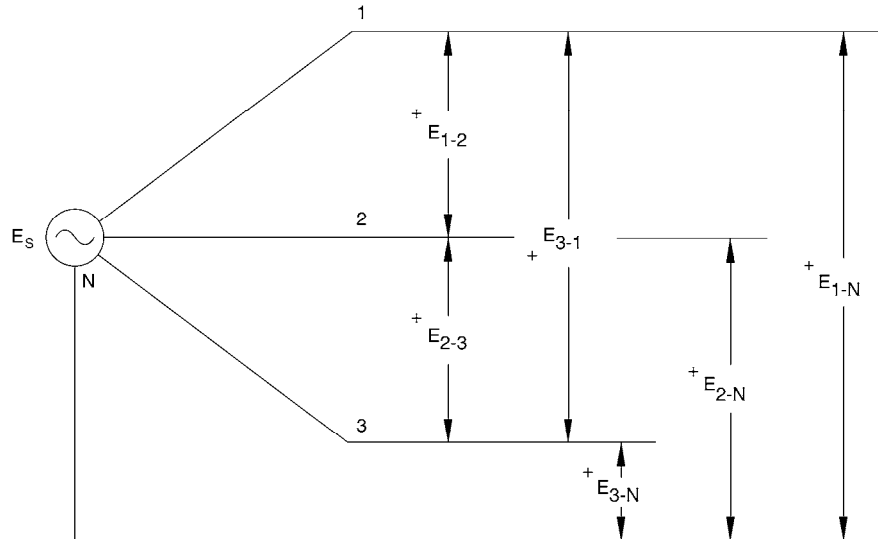

Figure 6-5. Measurement of line and phase voltages.
5. Connect meter inputs E1, E2, and E3 to measure the line-to-neutral and then the line-to-line fixed voltages of the Power Supply shown in Figure 6-5.